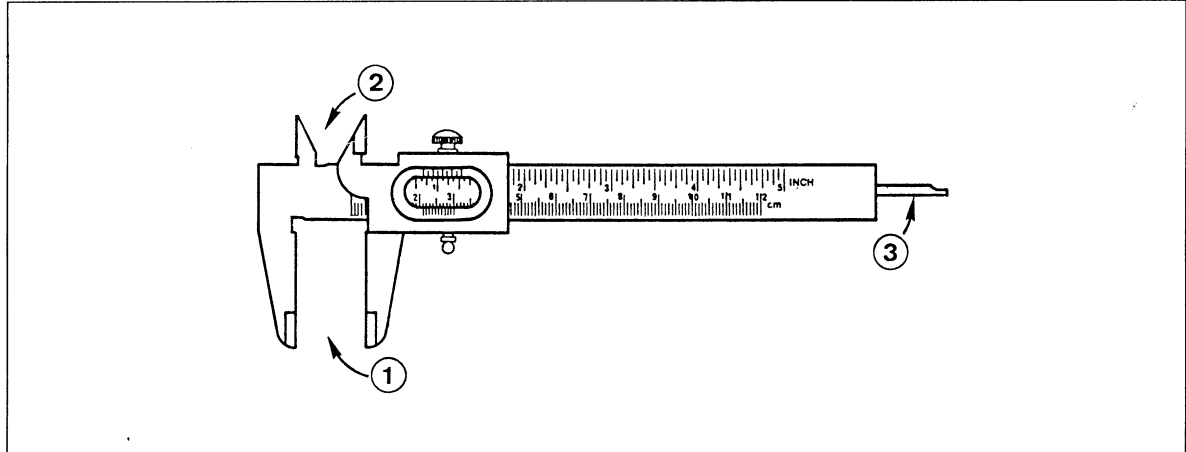

Fig. 2 ► 8.
8. Which parts of the vernier caliper do you use to measure depth and thickness and to take inside measurements? ► Fig. 2